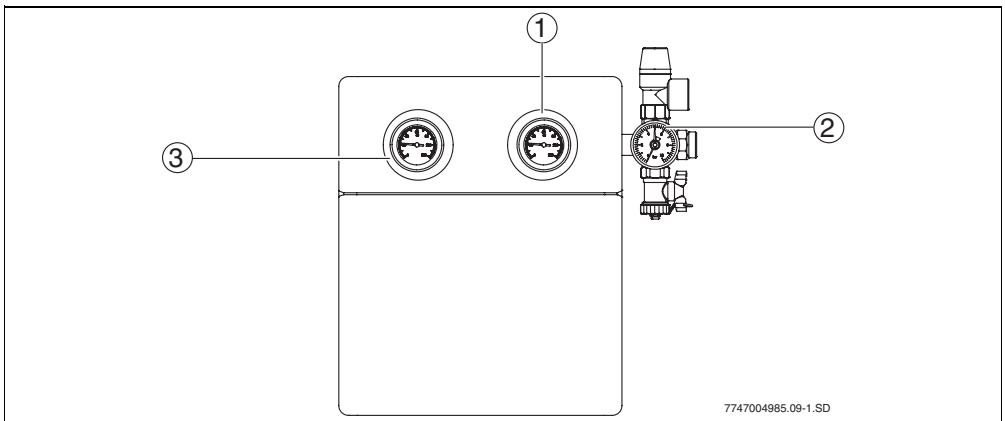

Fig. 3 Solar pumping station
- Thermometers (→ Fig. 3, items 1 and 3): The built-in thermometers display the temperatures of the solar return (blue) and flow (red).
- Pressure gauge (→ Fig. 3, item 2): the pressure gauge indicates the system pressure. The safety valve above it opens and releases the excess fluid pressure via the blow-off pipe if the system pressure rises above 6 bar.